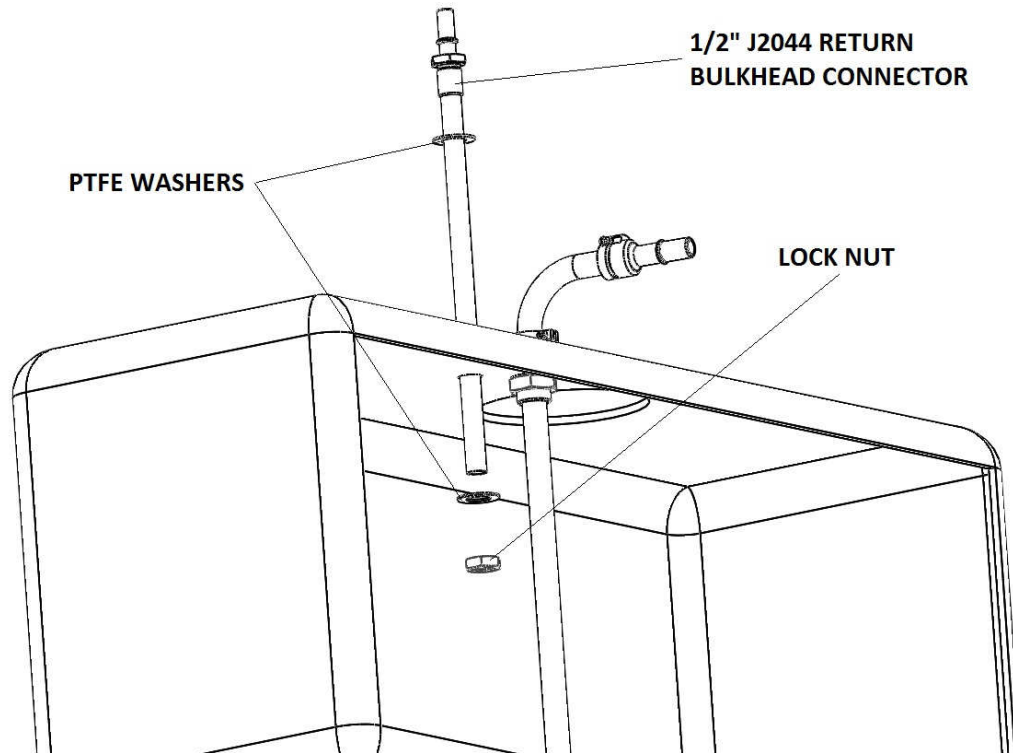

FIGURE 1-7
- Measure from the top of the hole you just drilled to half way down the black Aeromotive basket. Cut the return tube assembly to length. Insert it into the tank as shown in **FIGURE 1-7**